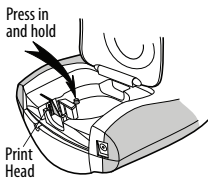

Figure 6
3. Place the tip of a ball-point pen or pencil on the black post as shown in Figure 6, and press the post down.
3. Gently wipe the padded side of the tool across the print head. See Figure 6.